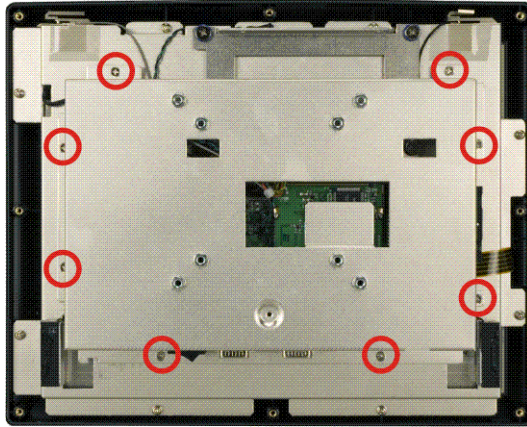

Figure 4-10: AFL-12A-LX Aluminum Back Cover Retention Screws
Step 1: Remove the eight retention screws securing the internal aluminum cover (**Figure 4-10**).